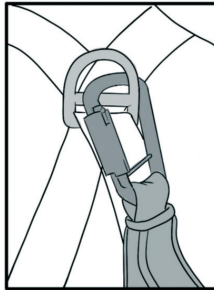

fig.2
2. Check that the User connector is secured to the harness attachment prior to any work at height, and where necessary spanner tightened (fig.2).